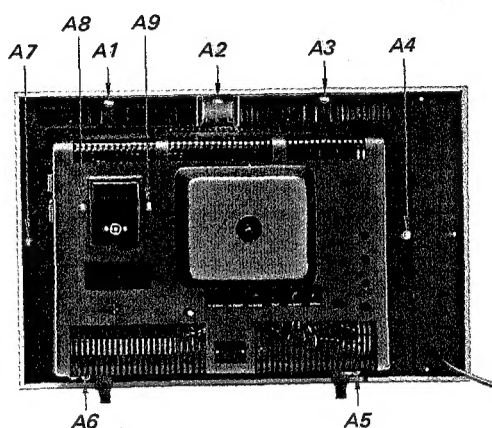

Fig. 2-1.
2. Remove nine screws labeled A1 ~ A9 in Fig. 2-1.